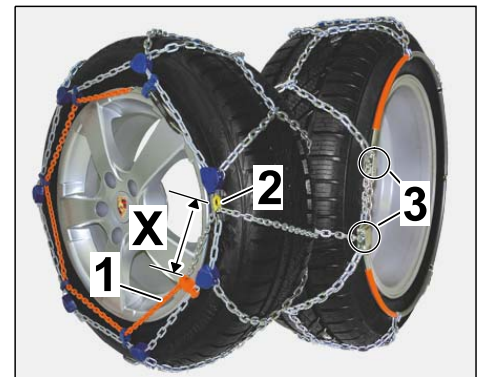

Figure 15
2.4 Check that the snow chain is fitted correctly on the wheel (⇒ *Figure 15*)
- The area marked in red on the tensioning chain must be pulled completely through the slot on the locking plate. The distance between the area marked in red and the slot on the locking plate (dimension X ⇒ *Figure 15 -X-*) can vary depending on the tire size.
- Position of deflection roller/tensioning points (inside of wheel ⇒ *Figure 15 -4-*): Must **NOT** be lying on the running surface of the tire or touching the road.